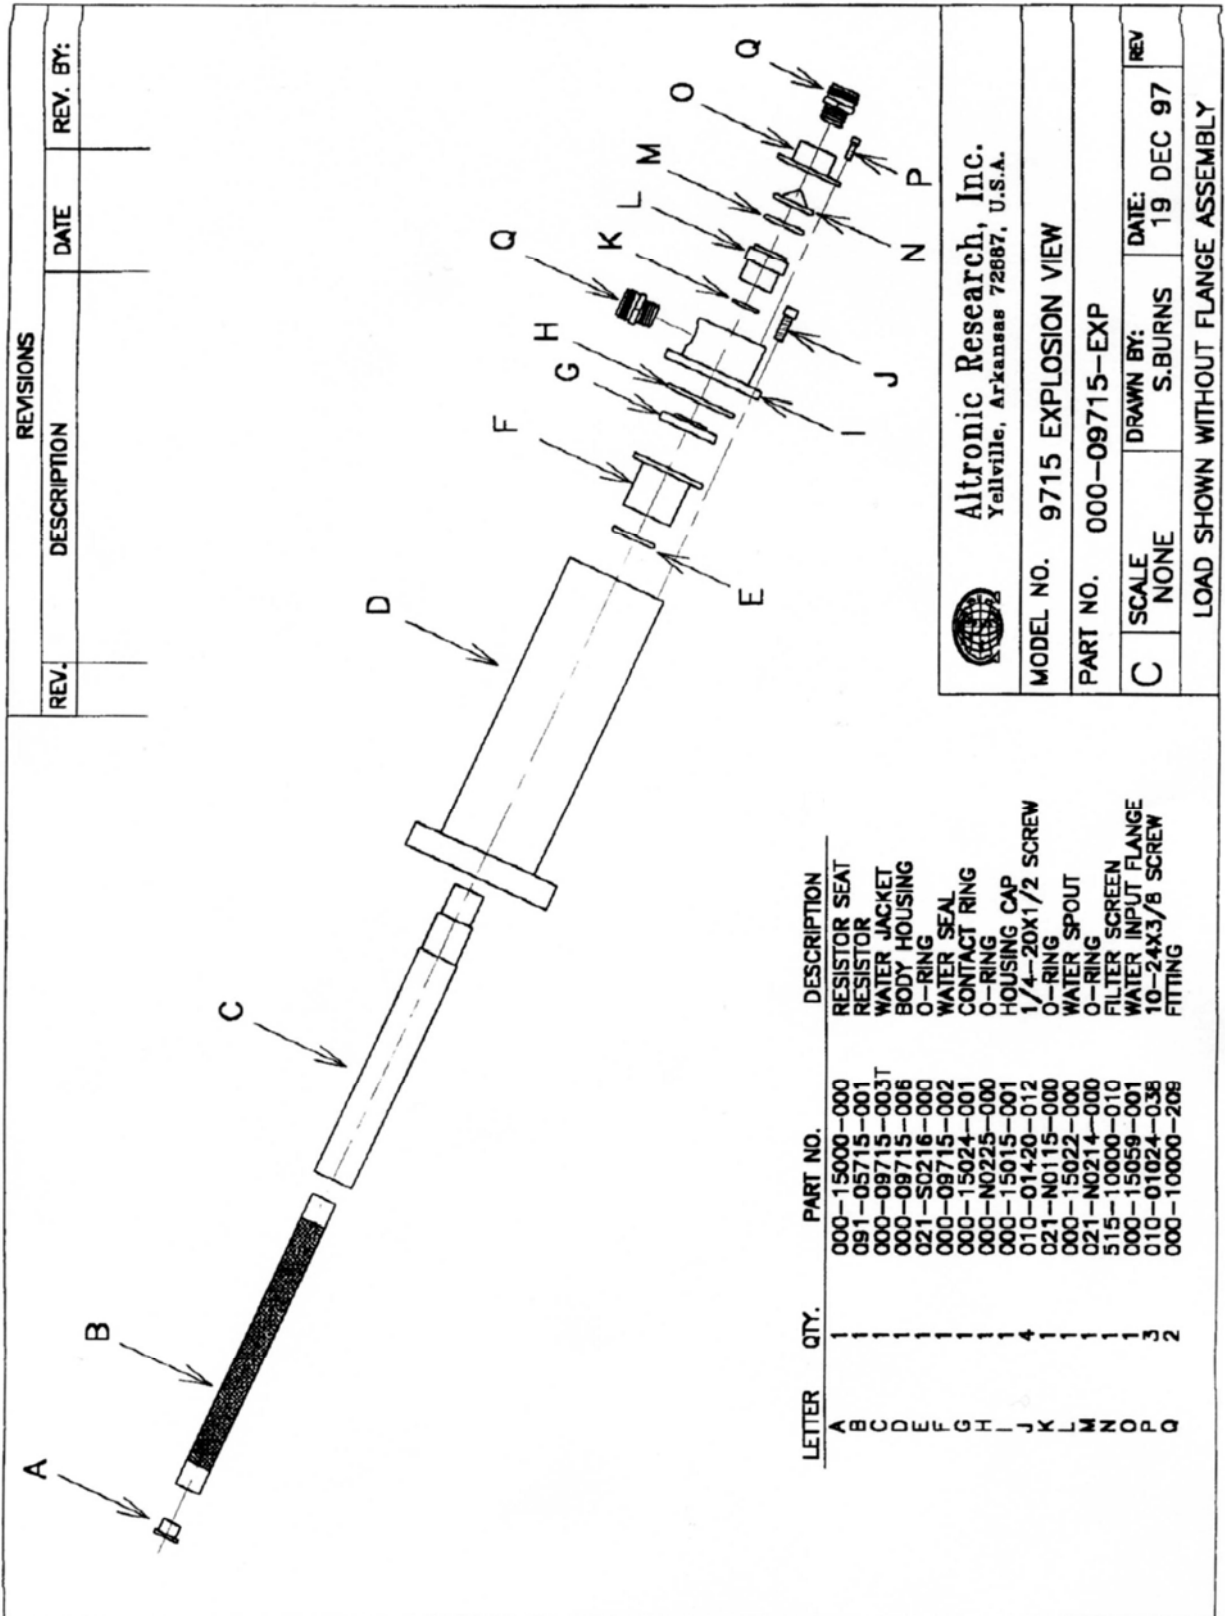
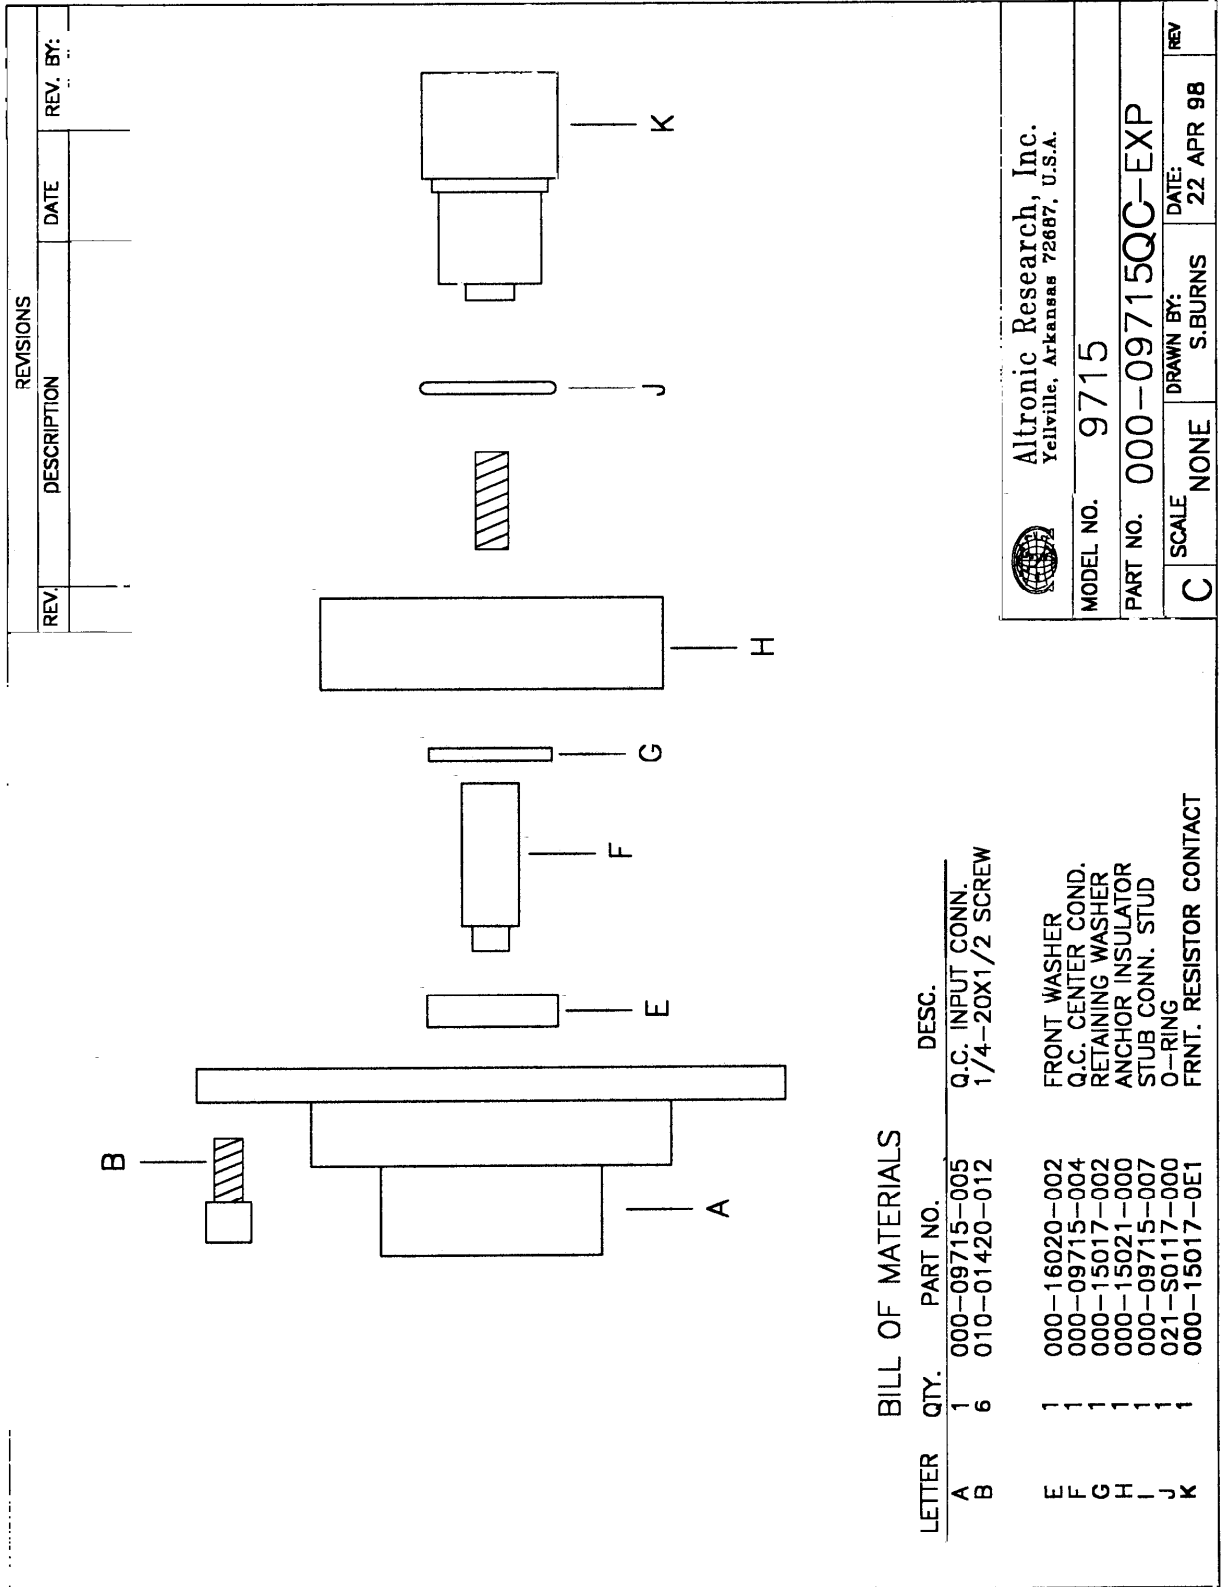

Fig. 14
Fig. 15
4. **Resistor Replacement** - (Refer to Fig. 14) To replace the resistor element, remove the three 10-24x3/8" cap screws (item P). Remove water input assembly (items N, O, and Q). Inspect filter screen for damage, replace if eroded or torn. Remove four 1/4-20x1/2 cap screws (item J). Remove housing cap assembly (items G, H, I, Q, K, L and M). Inspect all O-rings for distortion or damage. Replace if pinched, cut, burned or no longer round in cross
5. **Removal of RF Input** - (Refer to Fig. 15) To remove the RF input line adaptor flange (item A), remove six 1/4-20x1/2 socket head screws that secures the line adaptor flange to the load body housing (item D, Fig. 14). The RF input assembly consisting of the Q.C. center conductor, anchor insulator and front resistor contact (items E, F, G, H, I, J and K) will normally remain in the load body. Lift front washer (item E) off Q.C. center conductor (item F). Grasp the Q.C. center conductor by hand and attempt to pull the input assembly out of the load body using slight side to side motion while pulling. If strong resistance is encountered, it may be necessary to chill the load to allow the anchor insulator to shrink away from the load housing. This can be done by placing the load in a freezer, or packing the load in ice for 20 to 30 minutes. Once the anchor insulator has shrunk away from the load housing, the RF input assembly should be easily removed. At this point of disassembly, all components of the load can be inspected or replaced as needed. Reassembly should be done in the reverse order of sequence.